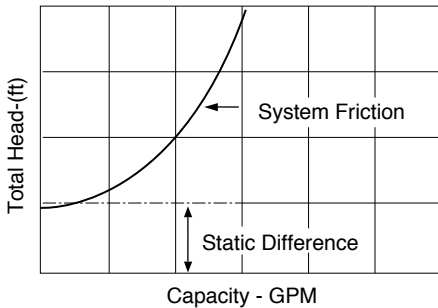

FIGURE 53. System Curve of a Simple Pump System with an Elevation Difference
- Because Point B is higher than Point A, it is necessary to add extra energy to the liquid to transfer the liquid from Point A to Point B. The amount that must be added, expressed in feet of head, is exactly equal to the difference in elevation between Point B and Point A. However, the friction loss between Point A and Point B still has to be overcome. The new system is expressed by the curve shown in Figure 53.
- Figure 53 and 55 show the system curves that represent the requirement of the system for any flow rate.